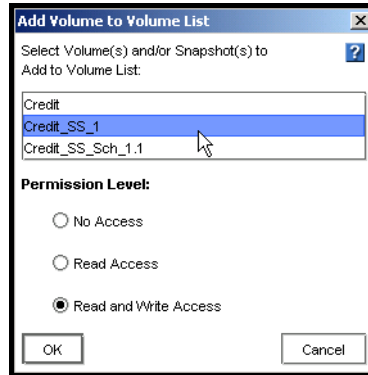

Figure 183. Adding Volumes and Snapshots to a Volume List
3. The Add Volume to Volume List window opens, shown in Figure 183.